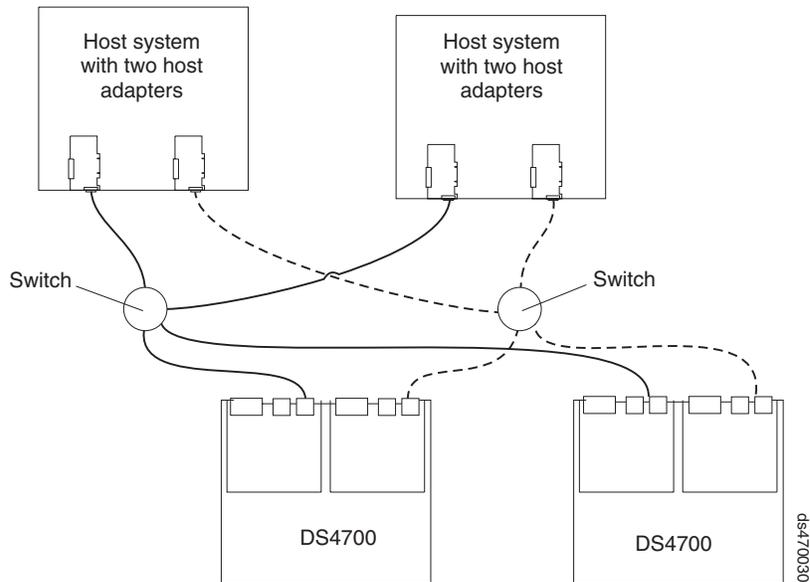

Figure 82. Example of two storage subsystems in a dual SAN environment
- Two storage subsystems in a dual SAN fabric configuration, as shown in Figure 82 on page 102
In Figure 82 on page 102, the fibre channel switches are not connected together. Each switch forms its own SAN fabric.